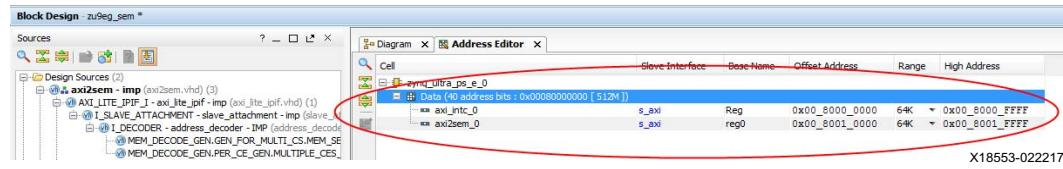

Figure 10: Address Editor
- a. Repeat for **axi2sem_0**. See Figure 10.